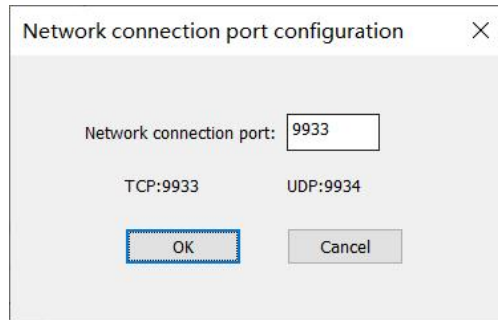

Fig.4-10 Network connection port configuration
- ① It is recommended that you select **Remote** when the sender is placed far from the LED screen and the control PC cannot physically connect to the sender via a cable.
- ② For calibration with 2 PCs, the PCs should share the same LAN (connected via WIFI or network cable), and the firewalls of them should be turned off. Both PCs should also install Calibration Pro of the same version.
- ③ The PC for display capture will automatically launch CaliPro Server and should be connected to the control PC.
- ④ The **Control PC port** is 9933 by default. If the default port has been occupied by other devices, you will need to set a port number for both the control PC and the PC for display capture. To modify the port number, right-click the software interface or minimize the interface in the control PC, and then access the network setup window to enter a new port number. See Figure 4-10.